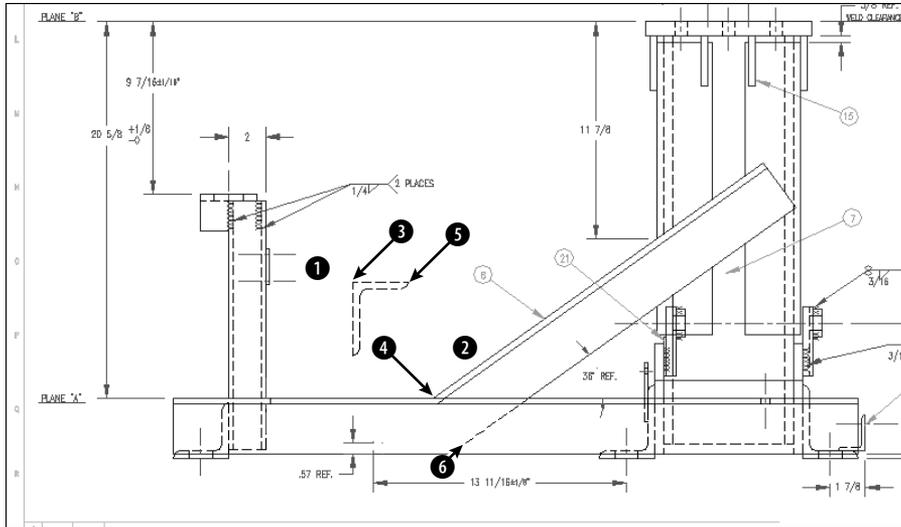

Figure 10-12: A base assembly for a commercial washing machine.
2. Save the file as ab10-04.dwg in your AutoCAD Bible folder. It looks like Figure 10-12.
Specify first source point: *Pick the endpoint at ③ in Figure 10-12.*